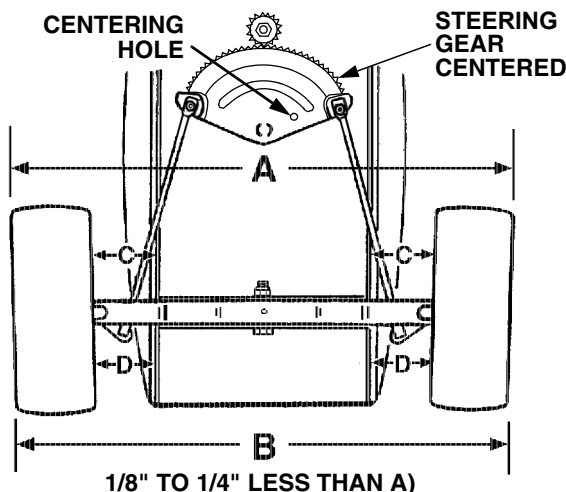

Figure 13
The front wheels should toe-in approximately 1/8 to 1/4 inch, as measured across dimensions A and B shown in Figure 13.
1. Check the steering gear to ensure it is in the centered position. The hole in the steering segment gear will align with the hole in the steering housing (See Figure 13).
3. Then measure the distance between the marks and the bottom edges of the tractor frame channels (See measurement D in Figure 13). These two measurements should be equal.
4. Rotate the marks to the rear *horizontal* diameter and again check that the steering is centered. Measure the distance between the marks and the frame (See measurement C in Figure 13). Measurement D should be approximately 1/16 to 1/8 inch less than measurement C on each side of the tractor.